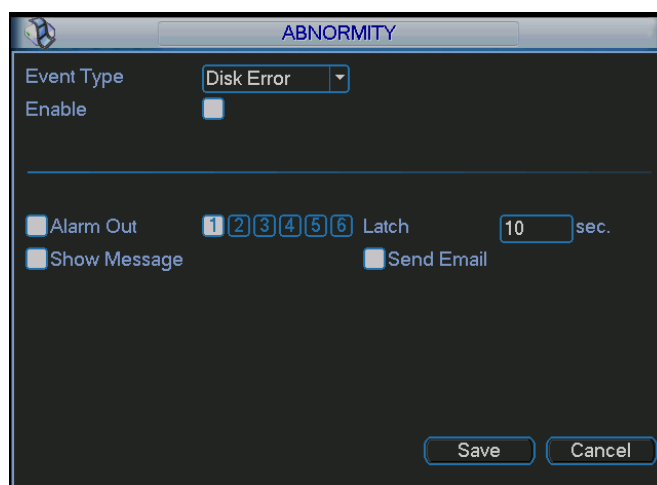

Figure 5-42
- Alarm set: Click alarm set button, the interface is shown as below. See Figure 5-42. (This interface is just like the abnormality setup). Please refer to chapter 5.5.2 for detailed information.